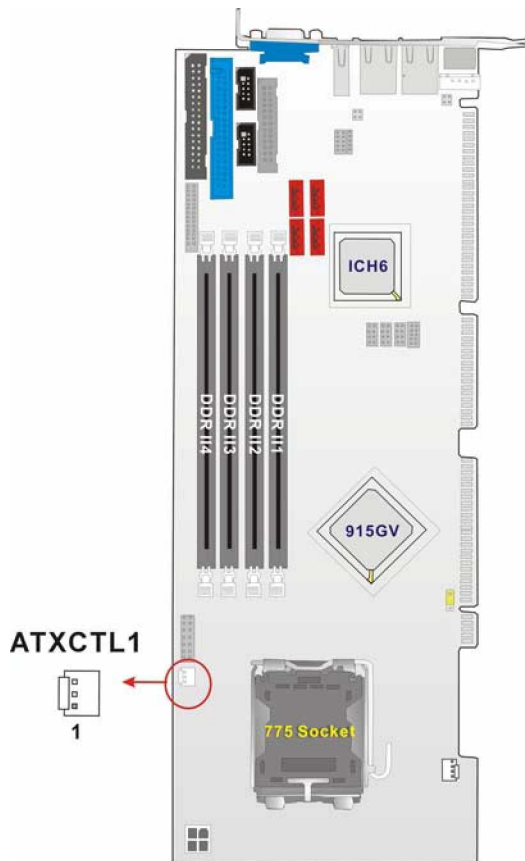

Figure 3-9: ATXCTL1 Connector Locations
- CN Location:** See Figure 3-9